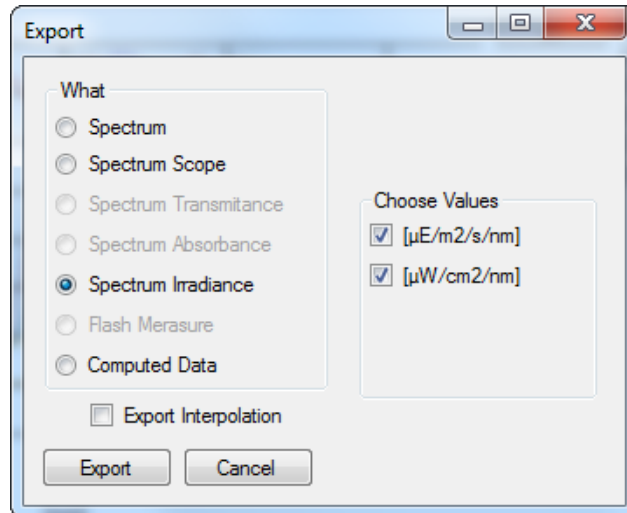

Fig. 35 Export of Irradiance spectrum.
**Spectrum Irradiance** – irradiance data for all measurements are exported. The user can choose to export the numeric values either in  $\mu\text{E}/\text{m}^2/\text{s}/\text{nm}$ ,  $\mu\text{W}/\text{cm}^2/\text{nm}$  or both (Fig. 35).